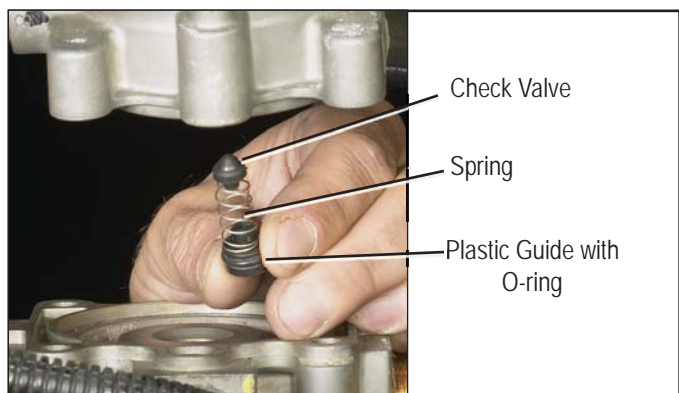

Figure 6 - *INTERNAL CHECK VALVE*
6. Remove the plastic guide, spring and check valve from the valve bore and discard. Note: The check valve may stick to its seat in the upper body. Be sure that all of the components are removed before going to the next step. Refer to Figure 6.